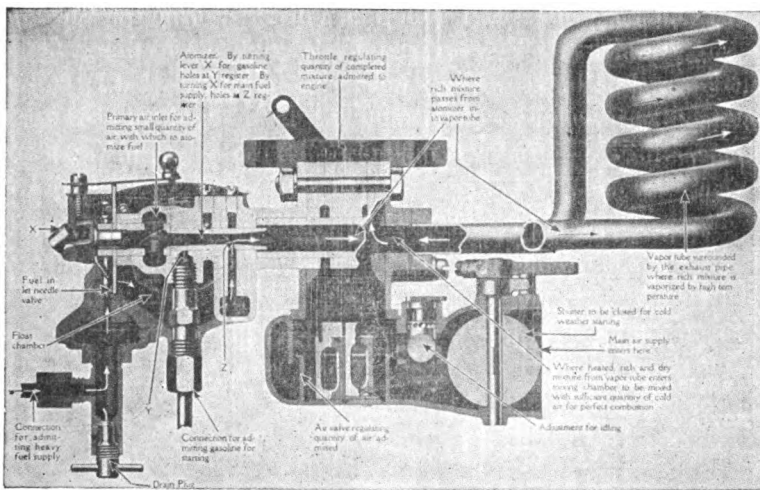

Fig. 127. Section Showing Construction of All-Fuel Carburetor
**Holley All-Fuel Carburetor.** Another Holley device is intended for the use of all kinds of fuel, heavier than our so-called gasoline. This is shown in Fig. 127, which presents a sectional view and explains all the parts as well as the operation. It consists of a simple spraying device with an air valve which sprays the heavy fuel, adds a very small amount of air to it, and then forces this mixture through a vapor tube, consisting of coils of thin-walled pipe surrounding the exhaust pipe. The exhaust heats the walls enough to completely vaporize any fuel that will evaporate below 600° F. This heater, rich, dry gas mixture is then returned to the main body of the carburetor where additional cold air is admitted to convert it into a perfectly combustible mixture. It then passes through the throttle and inlet manifold to the engine. Like the Holley kerosene carburetor just described, this starts on gasoline, and is switched to the heavier fuel as soon as the motor is well warmed up and the exhaust heat begins to be available.